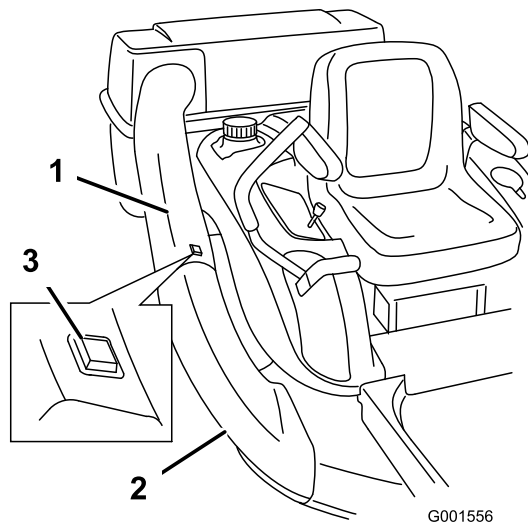

Figure 15
3. Slide the discharge tube into the opening in the grass catcher (Figure 15).
4. Slide the discharge tube over the end of the chute, ensuring that the tab on the chute snaps into the square hole in the discharge tube (Figure 15).
1. Push on the tab on the chute and pull the discharge tube free from the chute and grass catcher (Figure 15).